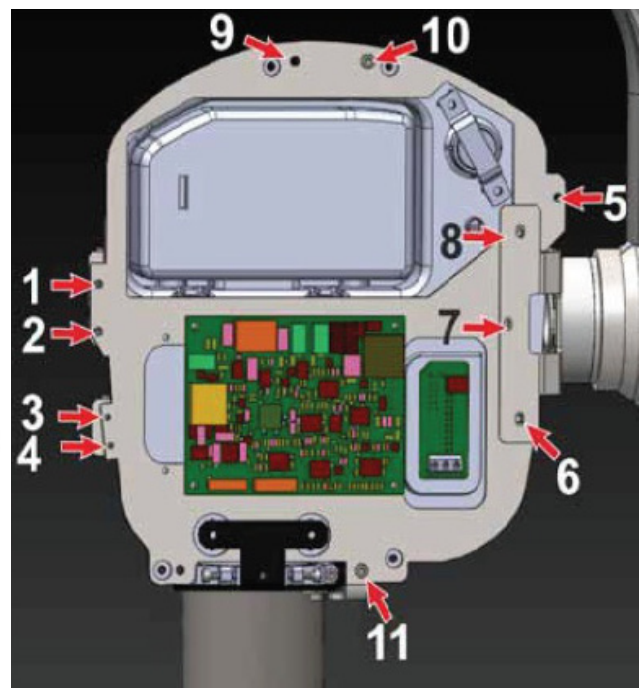

Figure 31
- To remove the HV Tank from the clamp, remove the 5 (M3X6 Hex. socket button head) screws (from 1 to 5 as shown in Figure 31) using 2 mm allen key.
- Remove 3 (M3X6 Hex. Soc. Head cap) Screws (From 6 to 8 as shown in Figure 31) on the top of the clamp near Tube head arm using 2.5 mm allen key.
- Remove 3 (M3X14 Hex Soc. head cap) screws (from 9 to 11 as shown in Figure 31) along with M3 plain washers & M3 nut using 2.5 mm allen key and 5.5mm Nut driver.